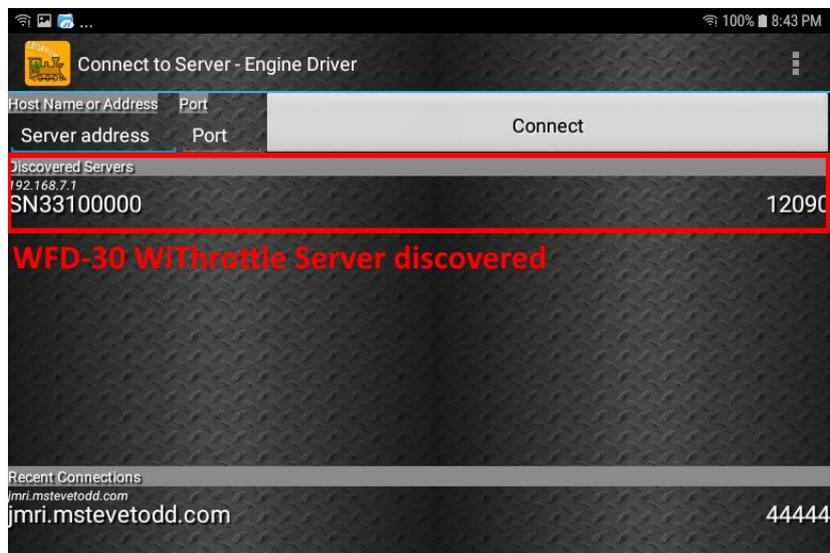

Figure 17 The WFD-30 WiThrottle Server is discovered by the Engine Driver app on Android
- (8) On the Apps find the Engine Driver app icon – you may have to swipe right (for convenience you could add a shortcut to your Home Screen), then tap it:
- (9) Go through the setup sequence, accepting all the defaults and allowing the required privileges.
- (10) After setup, you should see the “Connect to Server” page with your WFD-30 listed as a “Discovered Server” as Figure 17. Tap on it to connect. The green network LED on your WFD-30 should now flash regularly to show that the UWT-100 is communicating with it.